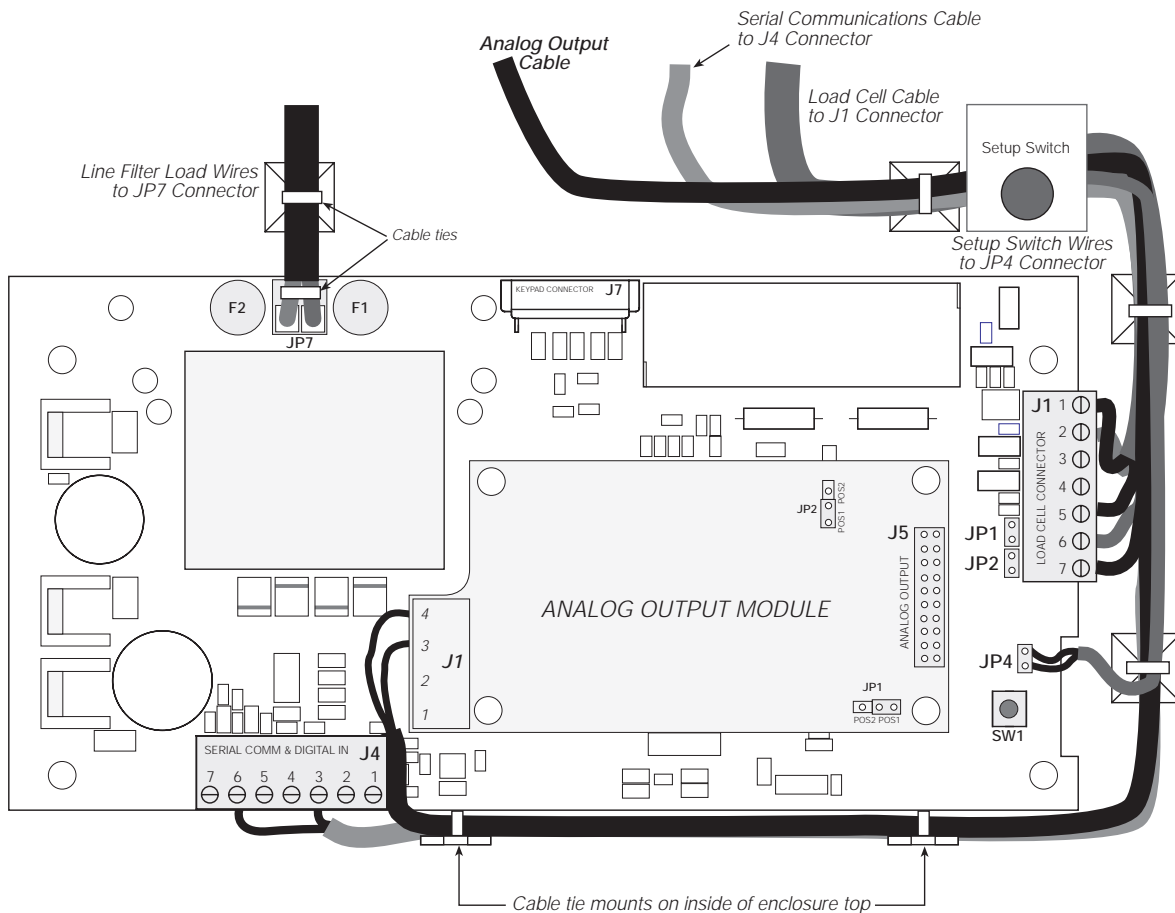

Figure 7. Analog Output Module Installation and Wiring on IQ plus 350 Board
**NOTE:** Ensure jumpers JP1 and JP2 are installed in position 1 (POS1) as shown in Figure 7.
Mount the analog output module on its standoffs in the location shown in Figure 7 and plug the module input into connector J5 on the IQ plus 350 board. Connect output cable to the analog output module as shown in Table 3, then reassemble the enclosure as described on page 6.